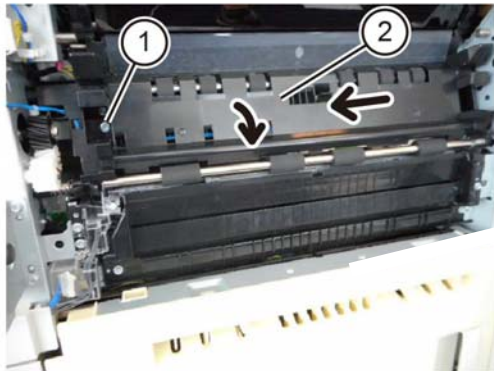

Figure 3 Registration transport assembly removal
5. Remove the registration transport assembly, Figure 3:
- a. Remove the screw (1).